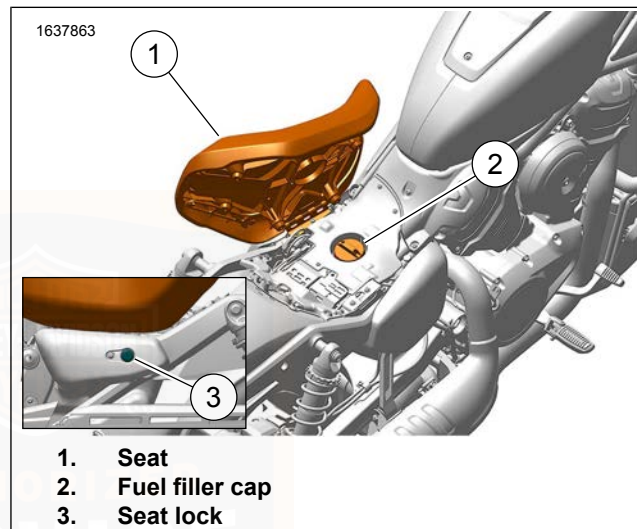

Figure 96. Fuel Fill (Under Seat Fuel Tank)
1. See Figure 96. Insert key in seat lock (3).
1. See Figure 96. Push down on seat to make sure latch is engaged.